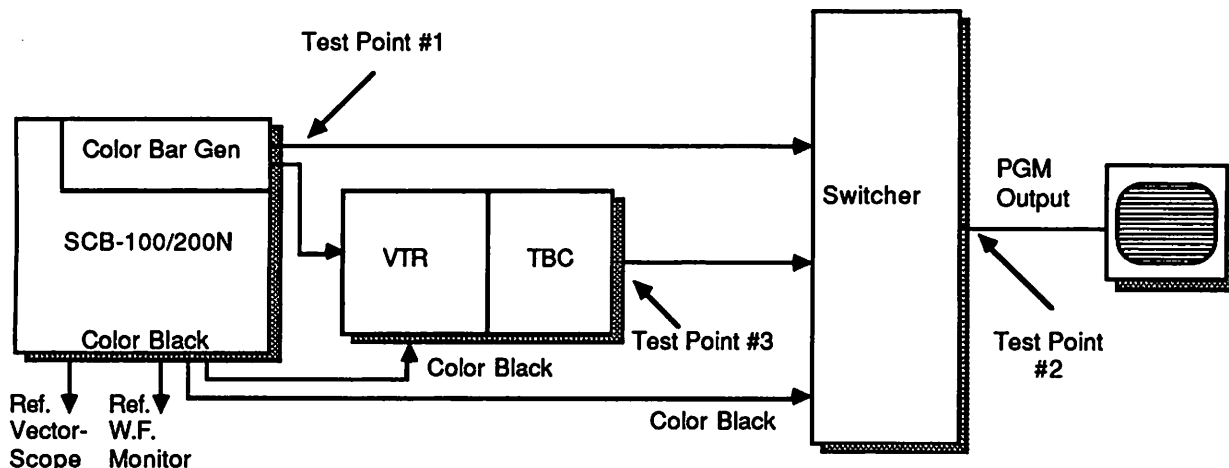
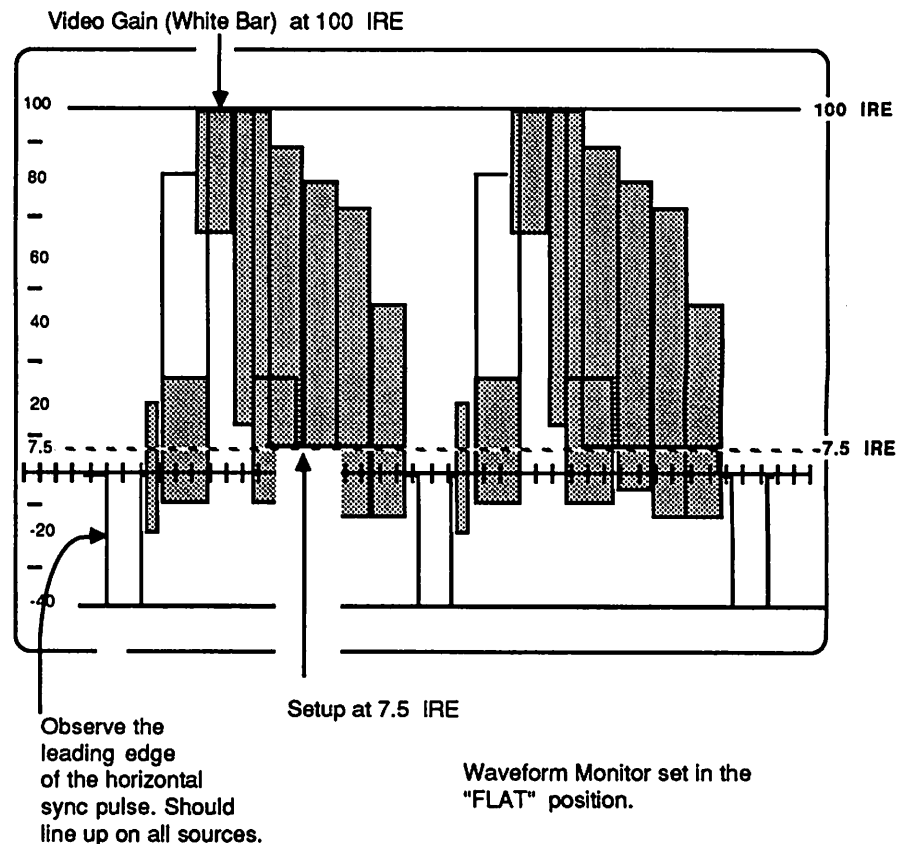
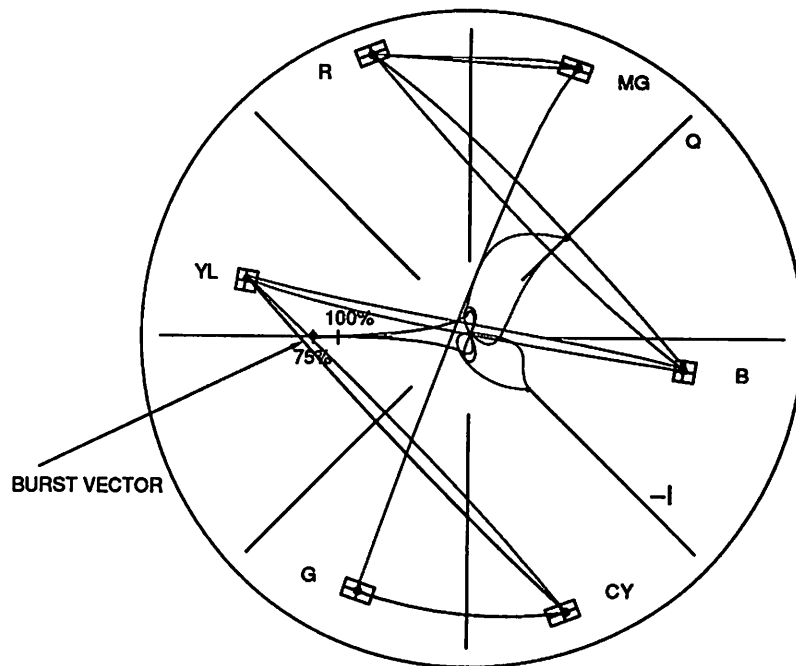

Figure 8. Timing Test Points in the Basic Studio
Figure 9. Adjustment of Setup and Video Gain On Waveform Monitor.
Figure 10. Adjustment of Burst Phase and Chroma Gain Using a Vectorscope
First, remove the cable which normally connects color bars to your switcher. We'll call this Test Point #1 (Figure 8). Connect a new cable from Test Point #1 to your waveform monitor and vectorscope. During initial setup, the scopes must NOT have EXTERNAL REFERENCE selected on their front panel switches. Ensure that each is set to its calibrated position. You may have to move the Horizontal Position knob on your waveform monitor and the phase knob on your vectorscope to observe displays which match those in figures 9 and 10. Familiarize yourself with those displays.
1. Adjust the setup control (also called black reference, black level – related to monitor brightness) to 7.5 IRE on the waveform monitor's scale. See Figure 9. Note that by adjusting setup you will affect the apparent brightness of the image on your monitors.
2. Adjust the video gain control (also called white level - 100 IRE, white bar, reference white – related to monitor contrast) to 100 IRE. See Figure 9. Note that by adjusting video gain you will affect the apparent contrast of the image on your monitors.
Note: the horizontal time relationship shown in Figure 9 is not intended to be an accurate representation.
3. Adjust phase (also called hue, burst phase, chroma phase, tint) so that the burst vector dot is aligned with the 75%/100% line on the vectorscope. The other vector dots which represent the various colors (YL=yellow, R=red, MG=magenta, B=blue, CY=cyan, G=green) should line up in relation to, though possibly not within, their respective boxes. See Figure 10.
4. Adjust chroma gain (also called chroma, color, saturation) so that the vector dots are centered in their six boxes. See Figure 10. If some vector dots will center in their boxes but others will not, compromise the settings.
2. Connect your waveform monitor/vectorscope cable to Test Point #2 (Figure 8) and be sure that any video cables which might have been disconnected earlier have been properly re-connected to your video switcher.
5. Select color bars (from your SCB-100N/SCB-200N) on the program row of your video switcher. Using the H-Position knob on your waveform monitor, adjust the leading edge of Horizontal Sync (Figure 9) to a convenient reference point. Using the Phase knob on your vectorscope, adjust the display so that the burst vector is properly placed (Figure 10). You may wish to increase the gain of the vectorscope display so that the burst vector dot is close to the outer rim of the display. This will make later equipment adjustments simpler.